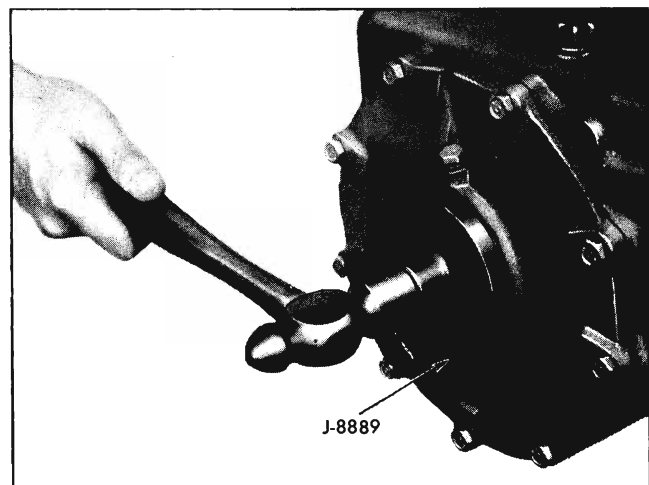

Fig. 4-6 Installing Side Bearing Oil Seal
8. Install new side bearing oil seal using tool J-8889 installed (Fig. 4-6) Coat lip of seal and splines with hypoid oil to help prevent damage to seal by splines of the U-joint yoke.